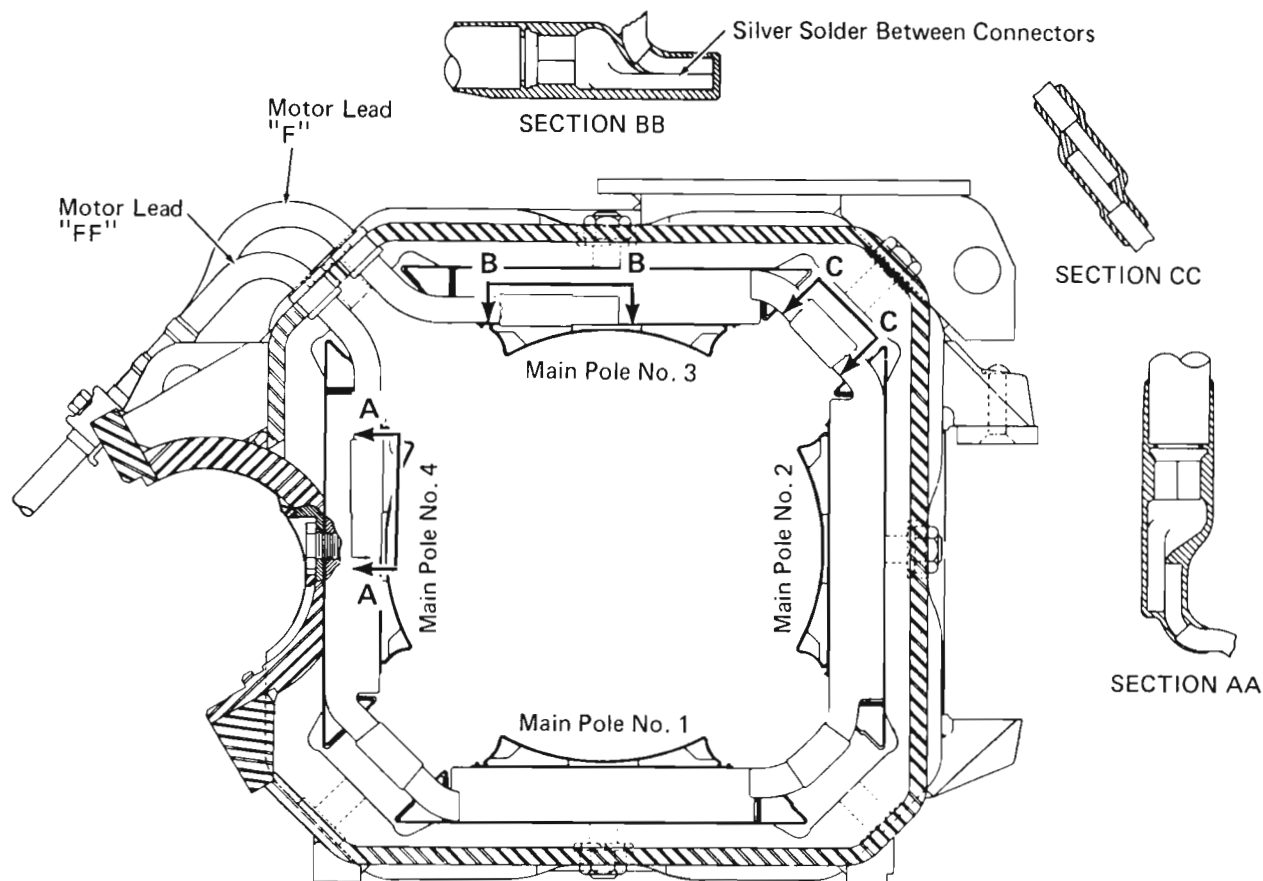

Fig. 20 - Main Field Coil Connections
1. Index stator frame fixture so that No. 3 main field coil is in the bottom position. Position "F" lead assembly through cable grommet and locate 38 mm (1-1/2") flat surface of terminal lug of "F" lead against bare copper to top lead of No. 3 coil as shown in Fig. 20, Section B-B. Position leads to ensure maximum surface contact.
6. Index frame fixture to position No. 4 coil, install and lineup "FF" lead to the No. 4 main field coil and perform brazing operation as instructed for "F" lead. See Fig. 20, Section A-A, for "FF" lead position to No. 4 coil.